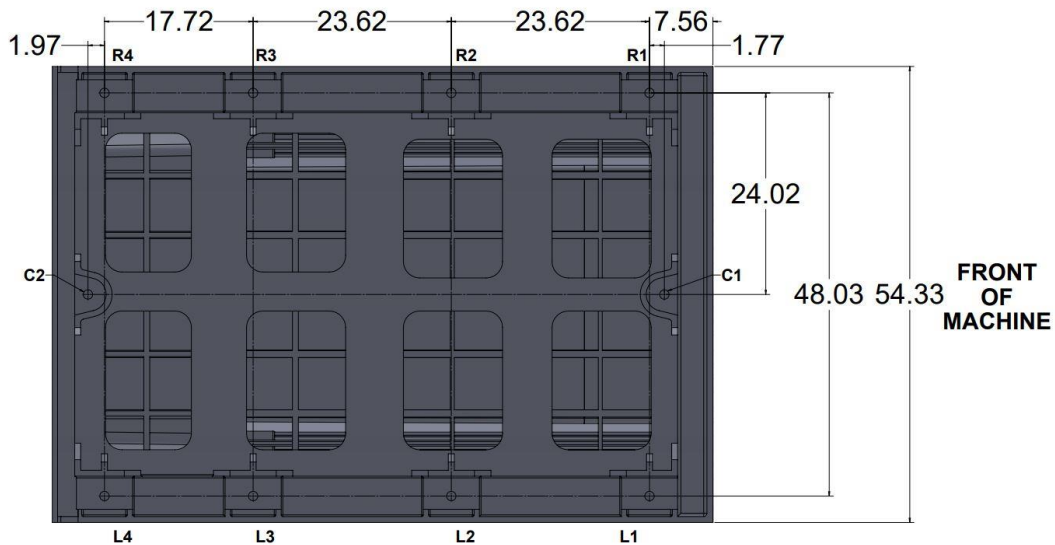

Figure 2.6.1b – VMC12si and VMC14si Leveling Pad Dimensions
3. On the VMC7si and VMC10si, leveling is achieved by using leveling screws R1, R3, L1 and L3. See figure 2.6.1b. Adjusting screws R2 and L2 should be left loose with the leveling pads and have no pressure at this time. A 36 mm wrench is required to adjust the leveling bolts.